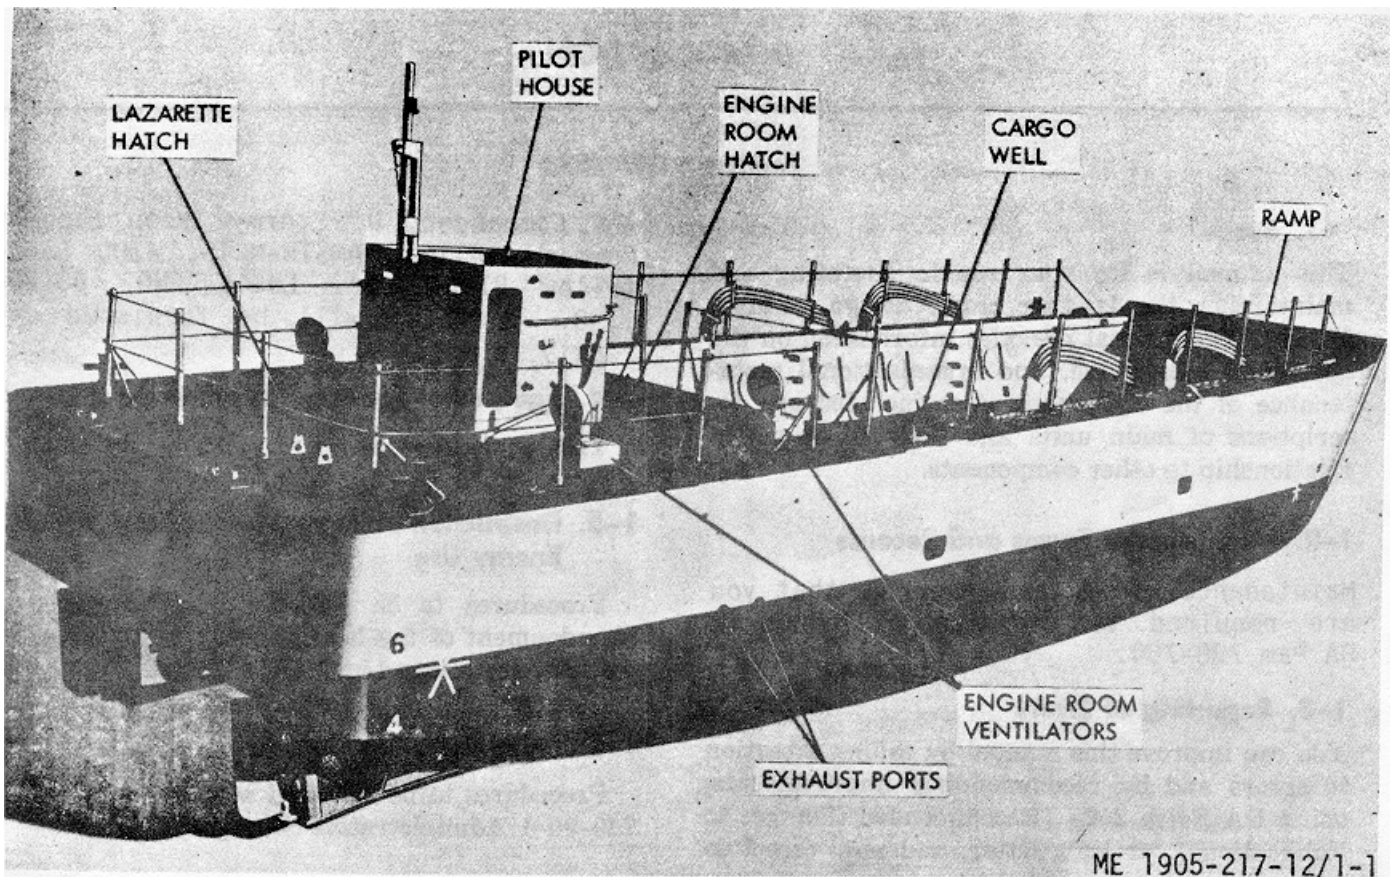

Figure 1-1. Landing craft, mechanized, diesel, design, LCM-8, MOD-1. (Marinette and Gunderson Models)
a. General. The LCM-8, MOD 1, Landing Craft (fig. 1-1 and 1-2) is a welded steel, twinscrew type craft. It is used to transport cargo, troops, and vehicles from ship shore, shore-to shore, or in retrograde movements. It may be utilized for lighterage and utility work in harbors. It is intended for use in rough or exposed waters and is capable of operating through breakers and grounding on a beach, remaining upright and tight, and retracting from the beach under its own power. The craft is propelled by two twin-engine propulsion units, and is capable of a speed of nine knots when fully equipped. The maintenance paragraphs of this manual contain detailed descriptions of the components of the LCM's.